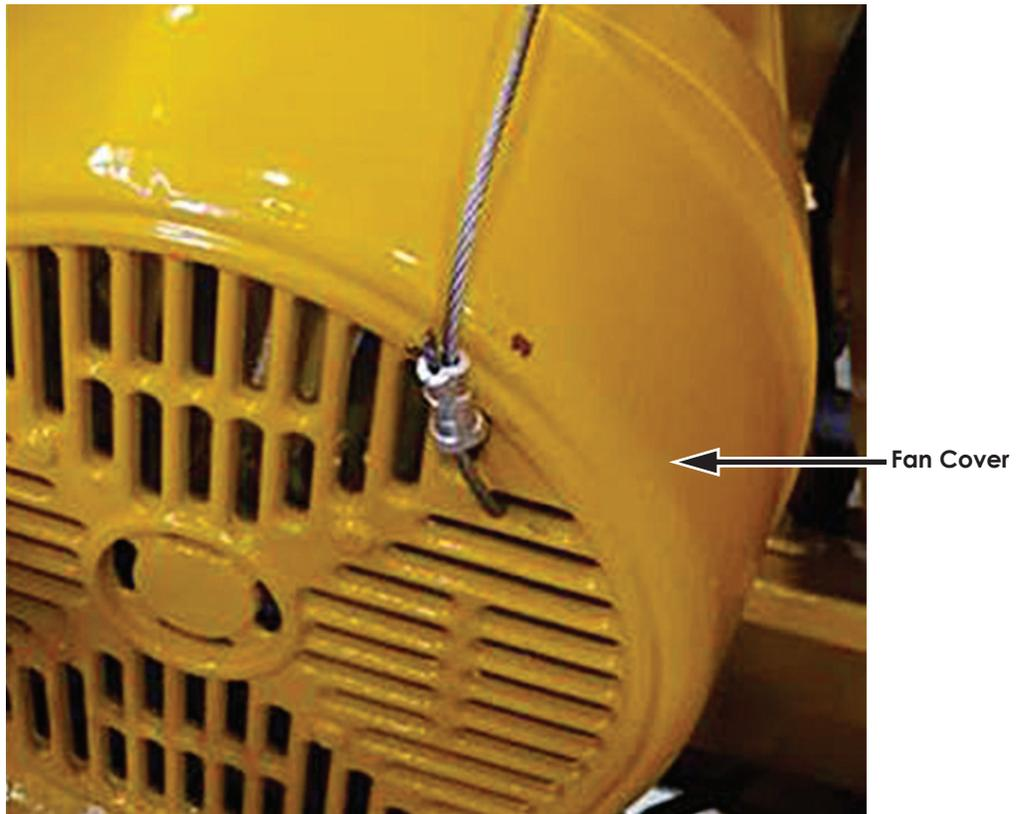

Figure 2: Safety wiring through the mesh in fan cover
- Using 1/8" wire rope and ferrules, run a length of the wire rope through the mesh in the fan cover and create a loop to secure one end of the wire rope to the fan cover. See Figure 2.